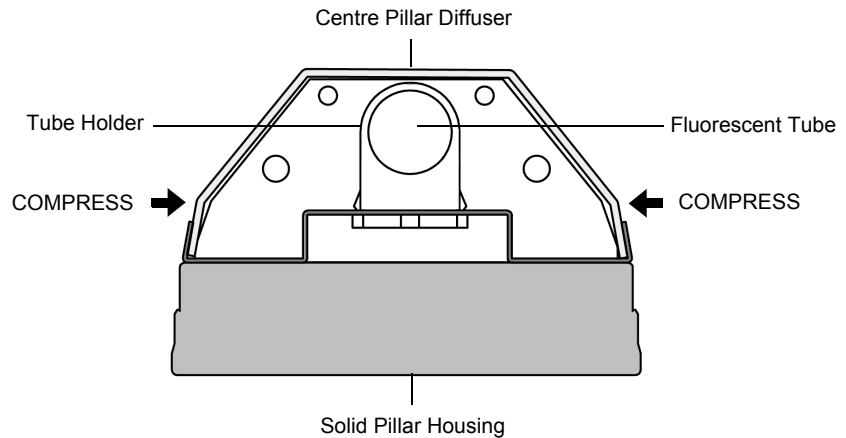

Figure 10: Centre Pillar Light
2. Start at one of the top corners of the sign unit and pull the sign panel out from under the sign top cover (see figure 10 on next page).